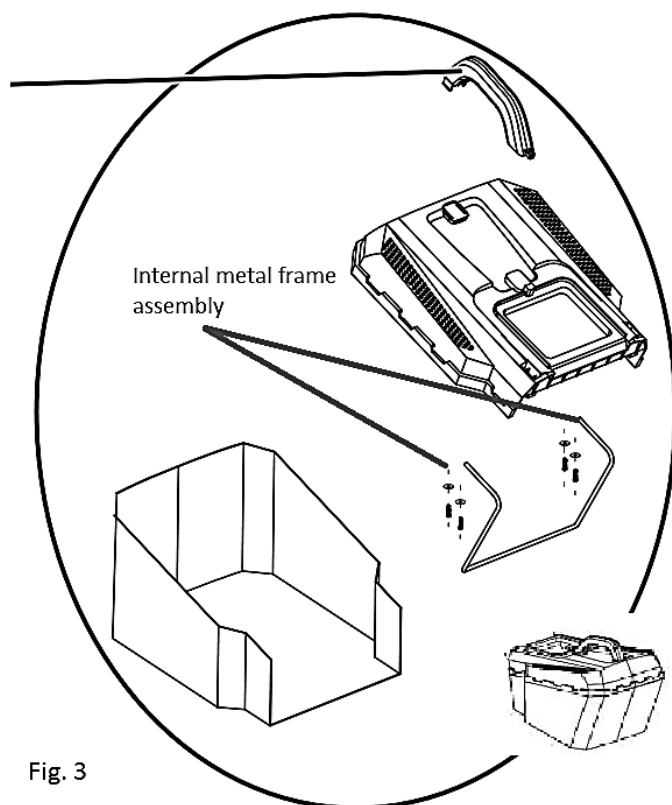

Fig. 3
11. Grass box handle – see Fig. 3